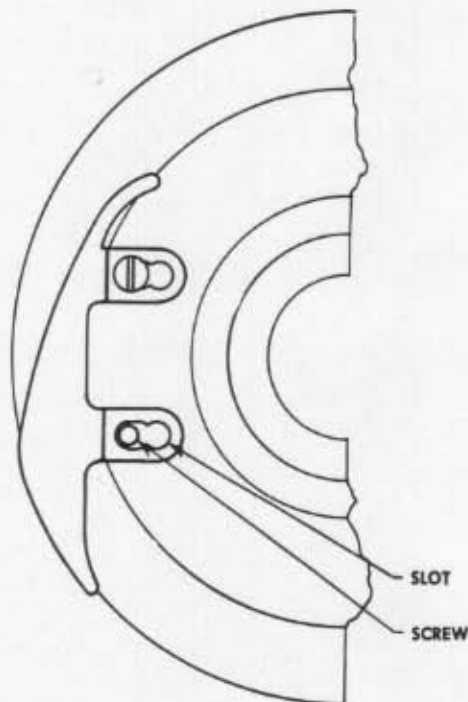

Figure 5-4
1. Cam should be installed with screws in elongated slots as shown in Fig. 5-4.
2. Adjust rod of carburetor or butterfly linkage (69) so that throttle of carburetor begins to open when speed control knob is approximately $\frac{1}{2}$ inch left of center.